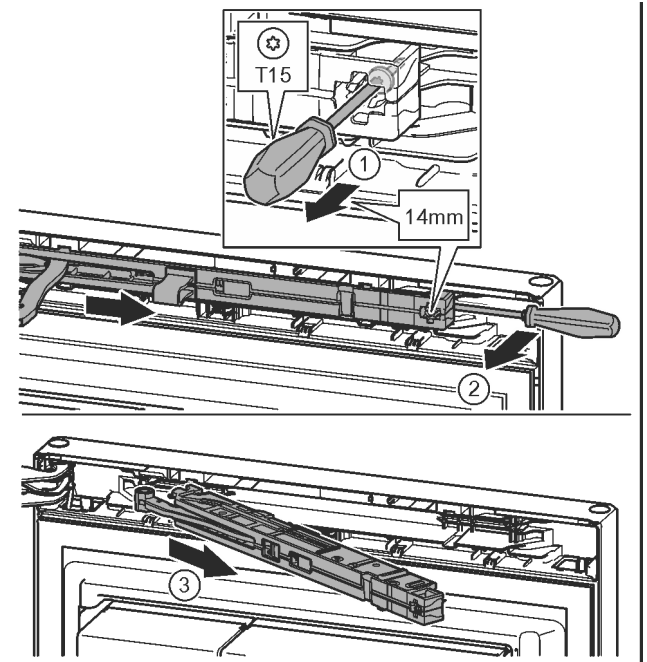

Fig. 10
- Undo the soft stop mechanism screw with a T15 screwdriver approx. 14 mm. *Fig. 10 (1)*
- Insert a screwdriver behind the soft stop mechanism on the handle side and rotate forwards. *Fig. 10 (2)*
- Remove the soft stop mechanism. *Fig. 10 (3)*